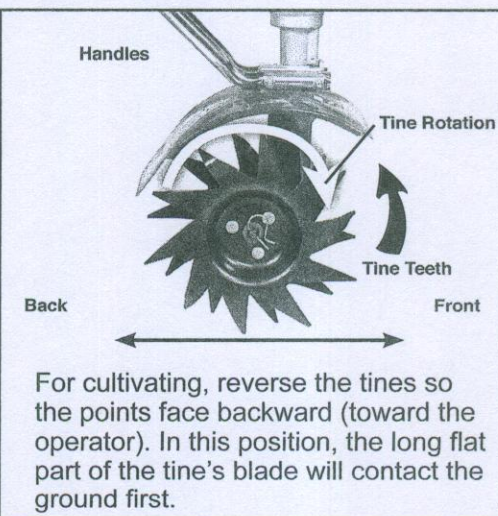

Figure 1
5. Reinsert the pins. (Figure 1)